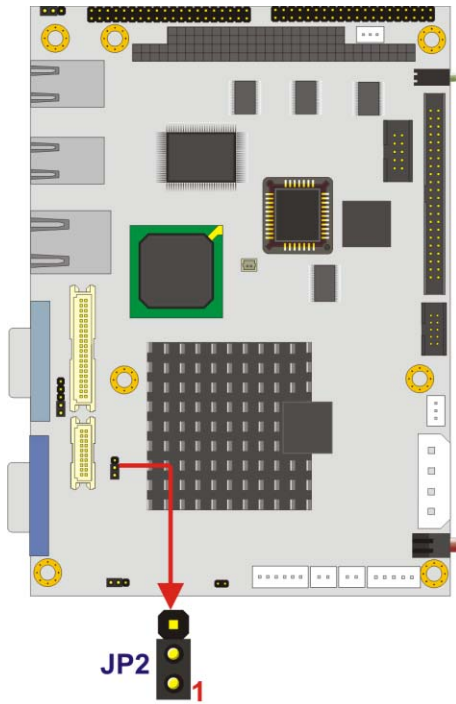

Figure 5-7: LCD Voltage Selection Jumper Location
- Jumper Location:** See **Figure 5-7**
The LCD Voltage Selection jumper location. is shown in **Figure 5-7**.